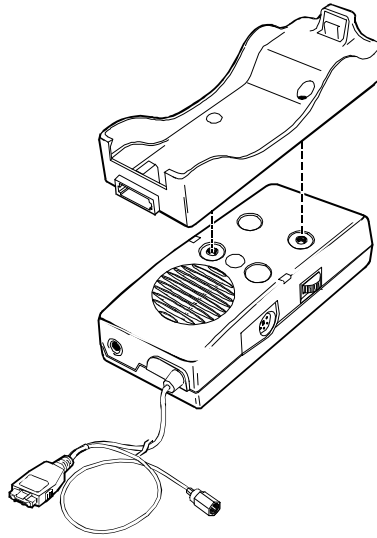

Figure 21: Holder removal
1. (Figure 21) Remove the holder from the unit (2 screws).